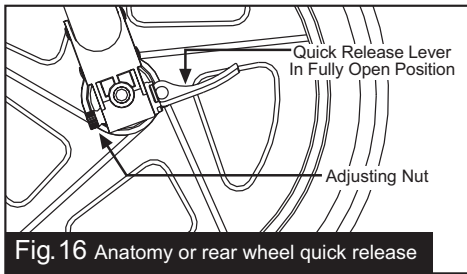
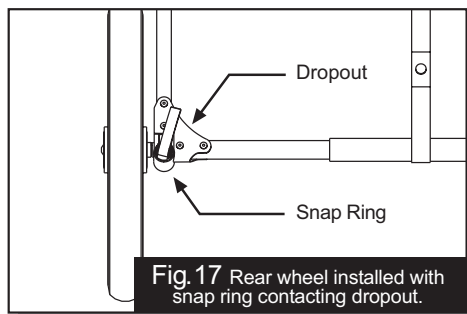
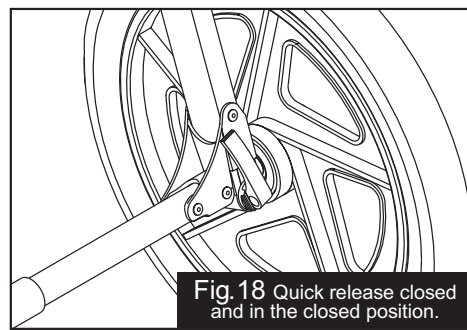
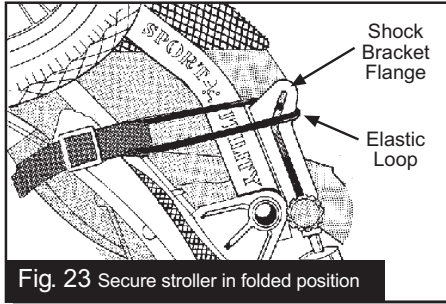

Fig. 16 Anatomy of rear wheel quick release
Fig. 17 Rear wheel installed with snap ring contacting dropout.
Fig. 18 Quick release closed and in the closed position.
Fig. 23 Secure stroller in folded position
9 REAR WHEEL: Fig. 16 shows the anatomy of the rear wheel quick release in its open position. Install the wheel by sliding the axle into the hole in the rear dropout (Fig. 16) until the washer on the axle comes in contact with the dropout (Fig. 17). If the axle does not slide all the way into the snap ring, it is necessary to loosen the quick release. Do this by placing the quick release in the fully open position, Fig. 16, and loosening the adjust nut on the quick release. Re-install the wheel. The quick release is NOT a nut and bolt system. It is a cam-activated tightening mechanism. Securely tighten the quick release as follows:
- ▶ Move the quick release lever fully open position, Fig. 16.
- ▶ Move the quick release lever toward the stroller, to the closed position, Fig. 18. The word CLOSE should be clearly visible and the quick release lever should be
pointing up and parallel to the swing arm. When it is properly adjusted, it will require considerable pressure to close the lever. If you do not feel this resistance, turn the quick release lever back to the fully open position, Fig. 16. Tighten the adjusting nut by hand (no tools required!) one or two more turns in the clockwise direction. Move the quick release lever toward the closed position, Fig. 18. When properly adjusted, it requires 80-105 inch/pounds of pressure to move the lever to the fully closed position. NOTE: Follow all instructions exactly. If you are unsure how to operate the quick release, consult your dealer.
quick release and removing the wheel. See section # 6 above. The rear wheels are removed by opening the rear wheel quick releases, Fig. 16, and removing the wheels. To keep the stroller in the folded position for storage and transport there are elastic loops at the end of each reclining strap. Simply place the elastic loops around the shock bracket flanges. See Fig. 23. Note: The elastic loop tie down strength is highest when the seat recline strap is in the fully reclined position.